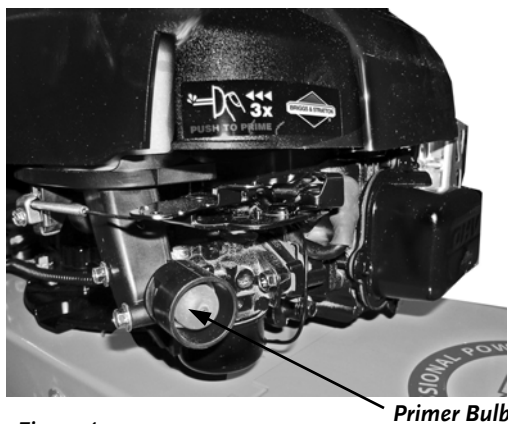

Figure 4
- NOTE:** If the engine is cold, push the Primer Bulb (**Figure 4**) in and completely release it, lifting your finger and letting it pop back to its original position. Repeat three to four times. In cold weather, you may need to press additional times, being sure that the bulb inflates between pumps.
1. Move the Shift Lever to the desired gear (**Figure 4**).